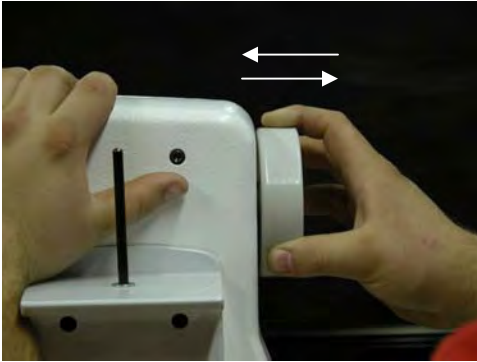

Figure 4.1
1. Check the arm-shaft by pushing and pulling on the hand wheel. See Figure 4.1. If a correction is necessary: